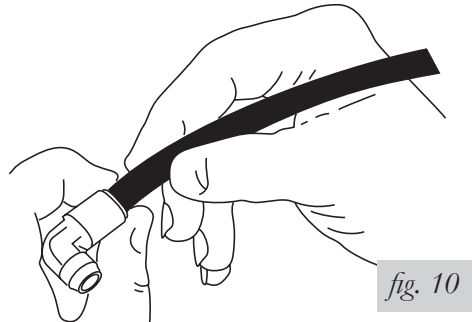

fig. 10
- Lubricate (i.e. soap, silicone spray, saliva) the end of the air line and insert it into the fitting (Fig. 10). Push firmly until you feel the resistance of the internal O-ring. Push harder and twist the air line slightly until you feel it move past the O-ring and seat. You will feel/hear it “click” into place. There will be  $\frac{9}{16}$ ” of air line in the fitting when properly seated.